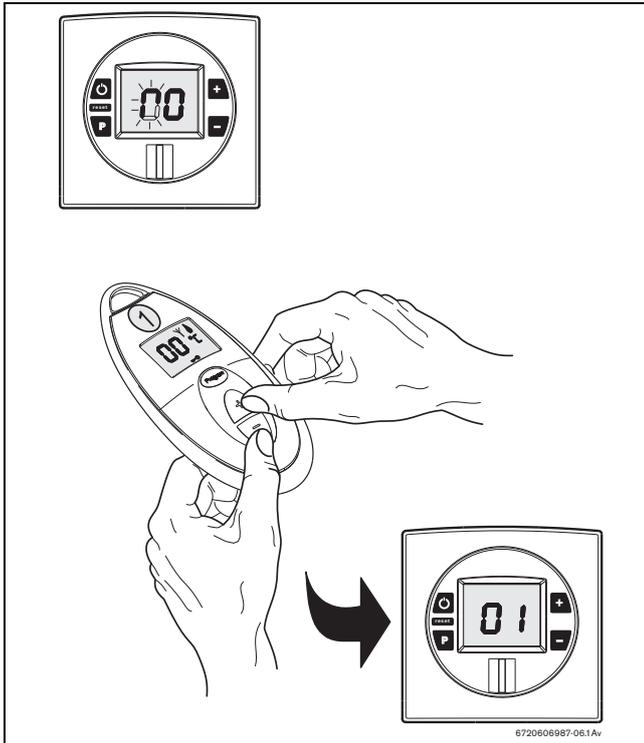

Fig. 13 Remote control activation
- ▶ Point the remote control at the equipment and simultaneously press the buttons  and  on the remote control (Fig. 13).